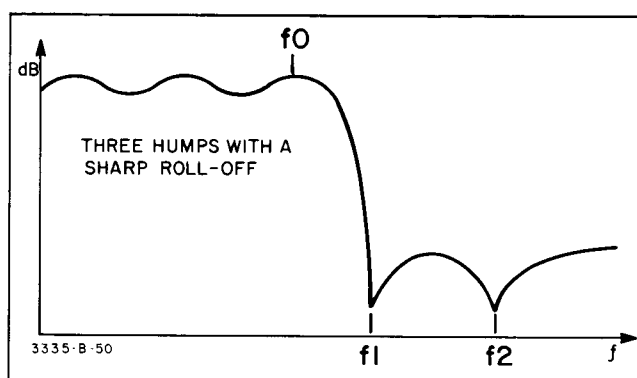
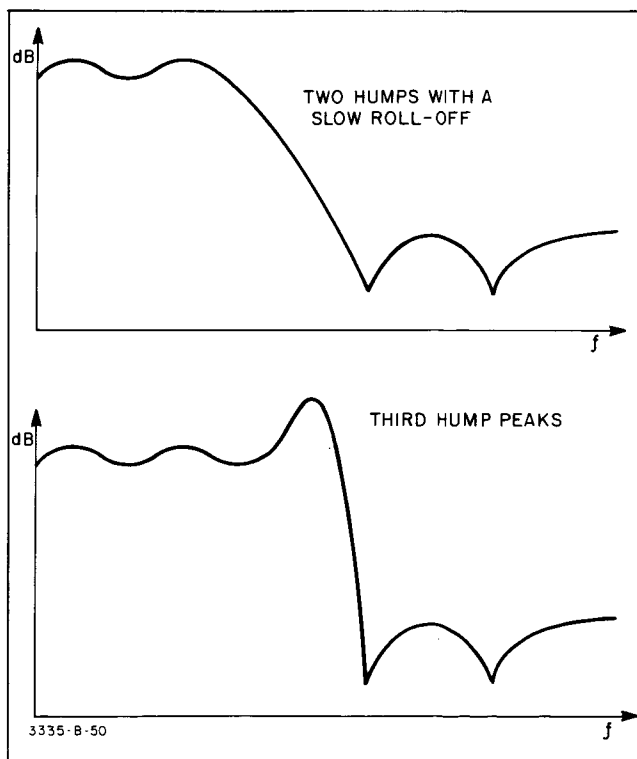

Figure 5-4. Ideal Filter Characteristics.
Figure 5-5. Improperly Adjusted Filter Characteristics.
- h. With the Tracking Generator, sweep the filter across the band edge (roll off) and adjust the right-most adjustment (see Table 5-5) for the best approximation of an ideal band edge as shown in Figure 5-4. Two examples of an improperly adjusted filter are shown in Figure 5-5.